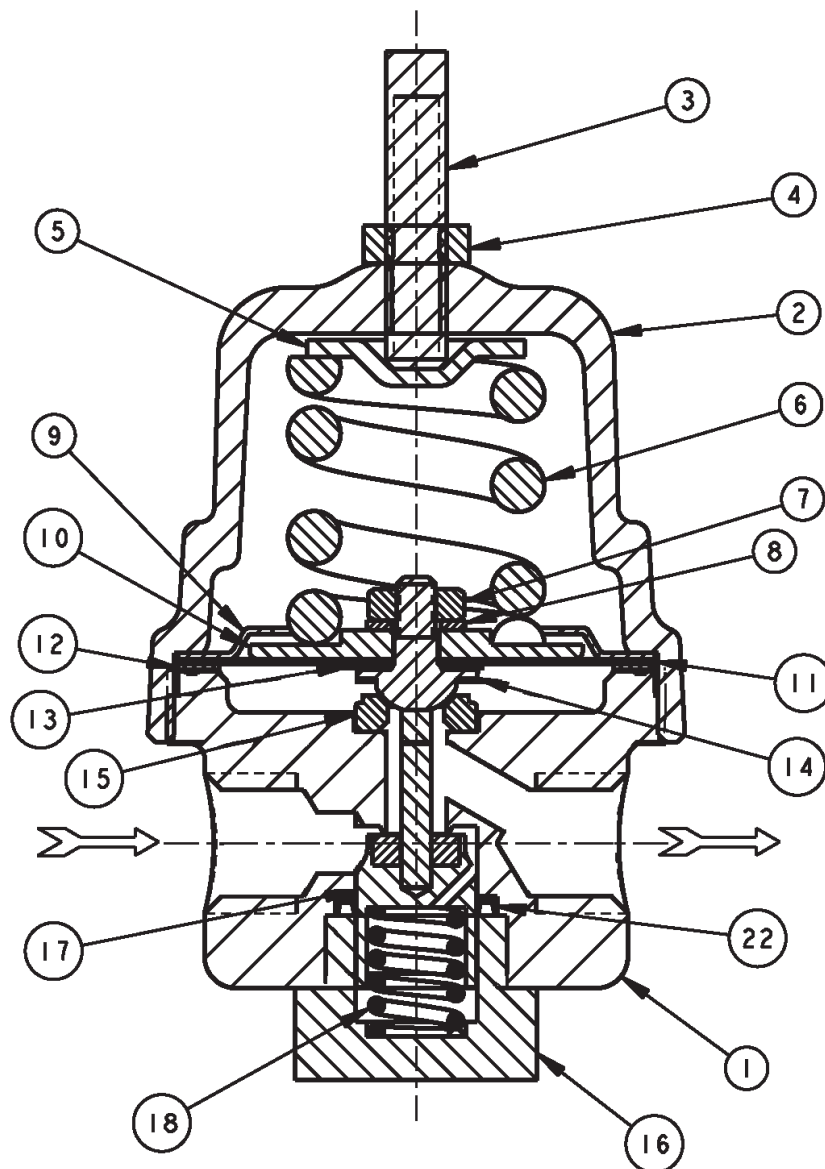

Figure 1
3. Refer to Figure 1 for view of basic unit and item number listing of parts.